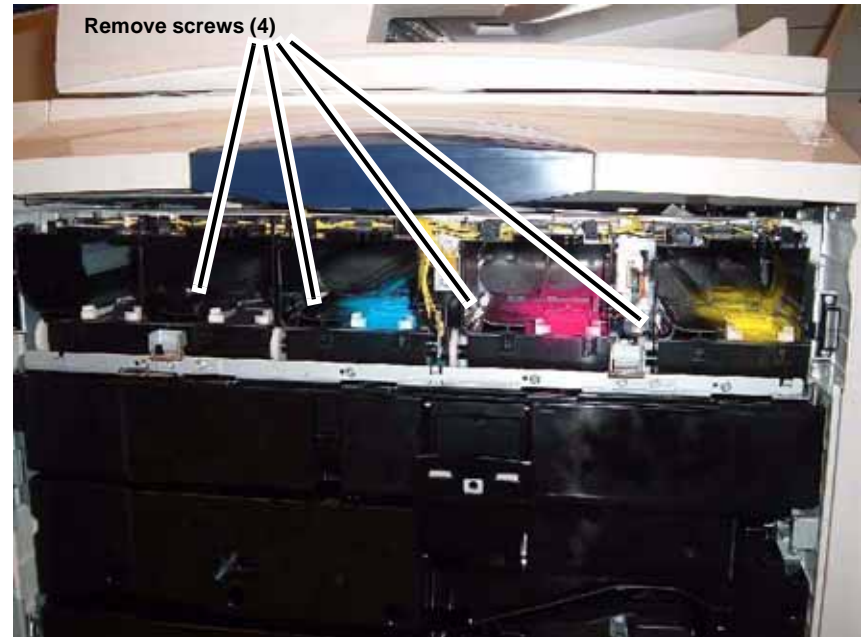

Figure 4 Removing screws
5. Remove screws securing the Dispenser Assembly (Figure 4).